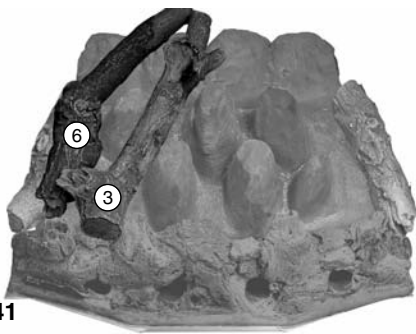

Fig. 41
5. Following Figs. 41 to 47, place the loose logs on to the fuel bed. It is important that the logs 'nest' together and sit on top of the fuel bed peaks.